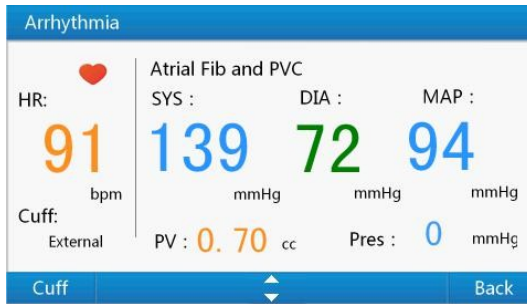

Figure 18 Arrhythmia BP simulation interface
- 1) Select **"Arrhythmia"** in **"BP Simulation Menu"** or use number key **"6"** to the arrhythmia BP simulation interface shown as Figure 18.